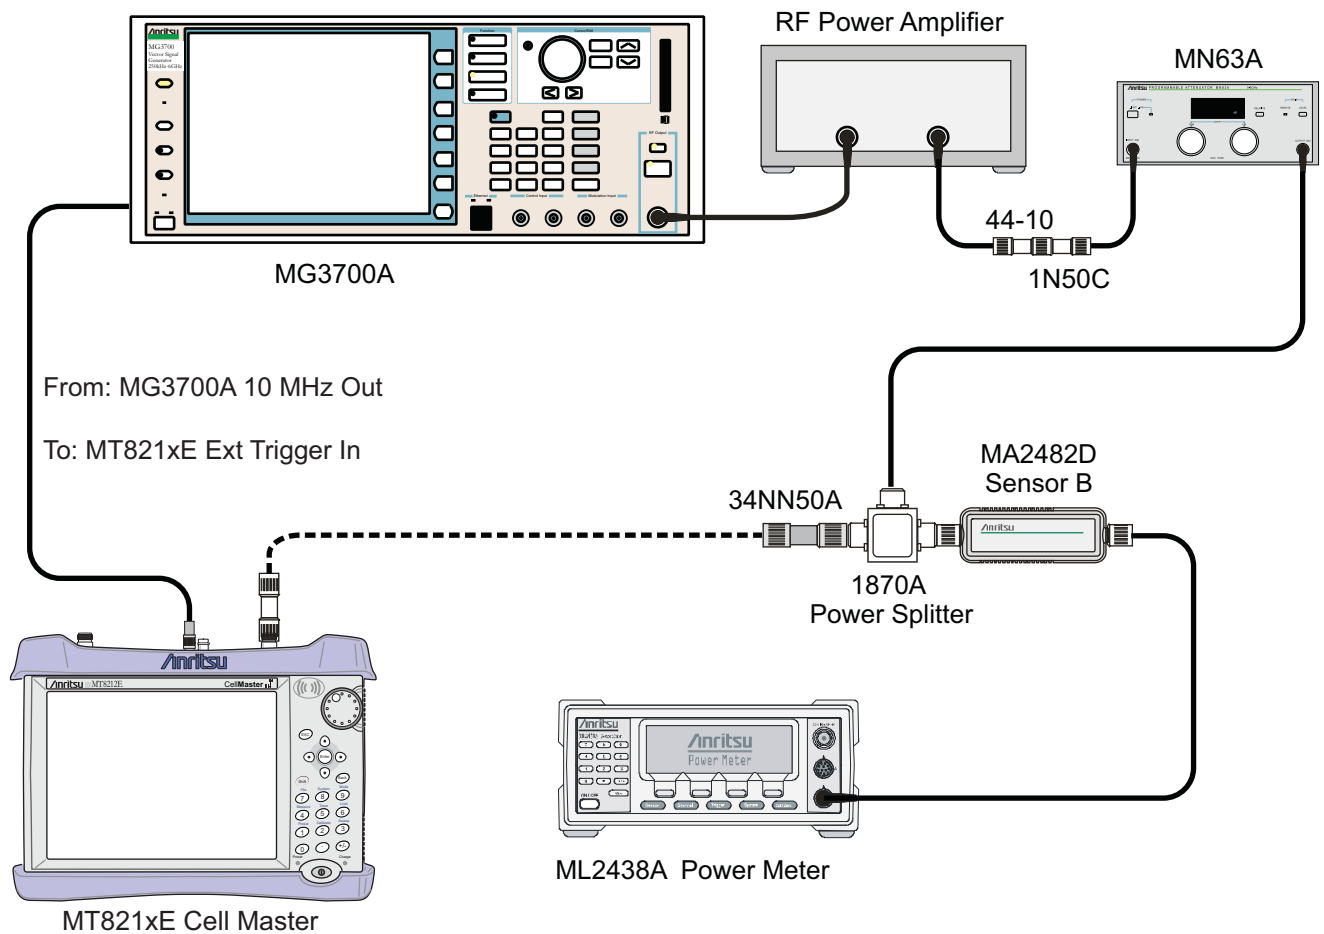

Figure 5-16. Level Accuracy Verification
26. Remove Sensor A from the Power Splitter, and then connect the Power Splitter to the Cell Master RF In port with the N(m)-to-N(m) adapter, as shown in Figure 5-16.
31. Press the **Shift** and **Sweep** (3) hard keys, then press Meas Mode.
61. Remove Sensor A from the Power Splitter, and then connect the Power Splitter to the Cell Master RF In port with the N(m)-to-N(m) adapter, as shown in Figure 5-16 on page 5-83.